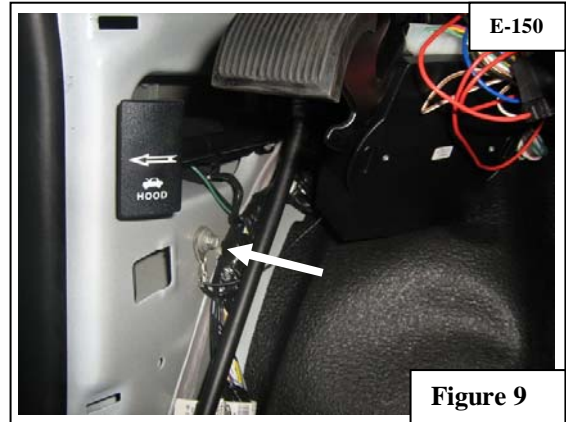

Figure 9
3. Apply the **Black Ground Wire** from the **Main Wiring Harness** to the Vehicle Ground Point behind the lower dash panel (F-150) in **Figure 8**, or behind the driver-side kick panel (E-150) in **Figure 9**.